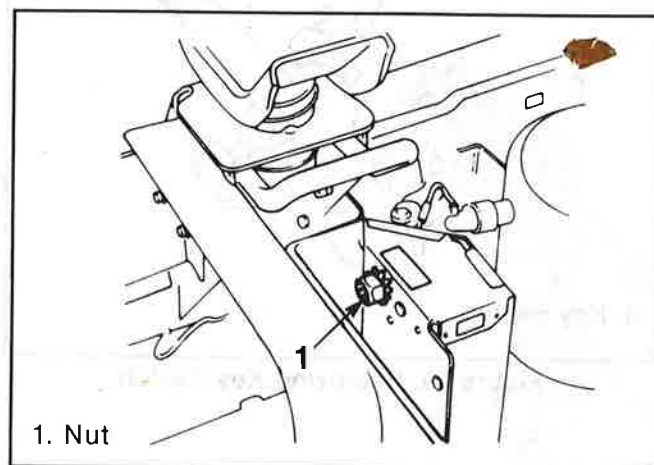

Figure 51. Sub Start Switch
- Remove the nut (1) (figure 51).